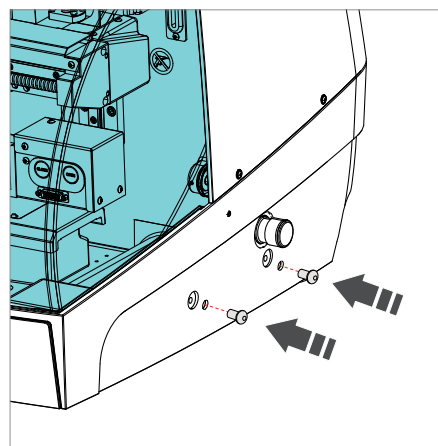

Fig. 18
- 2) Close the holes on the base with the screws provided (Fig. 18).